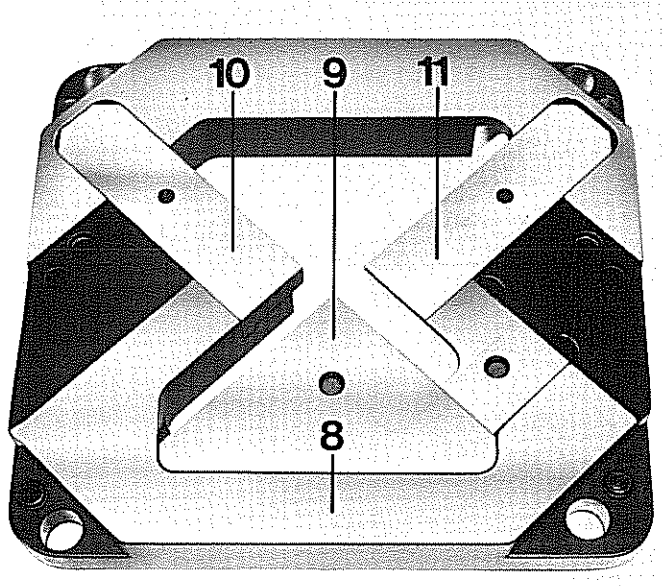

Fig. 60: Fixed PMB section blade
a) New parts to be ordered (Figs. 60 and 61):
## 2. Removal of PMB Blades (Figs. 60, 61, 62 and 63)
## 3. Installation of PMB Blades (Figs. 60, 61, 62 and 63)
## 4. Cleaning the PMB Blades (Figs. 60 and 61)
b) Fit the parts ordered under a) into the section blades 8 and 12 as shown in Figs. 60 and 61 (see PMA blades, item 3).